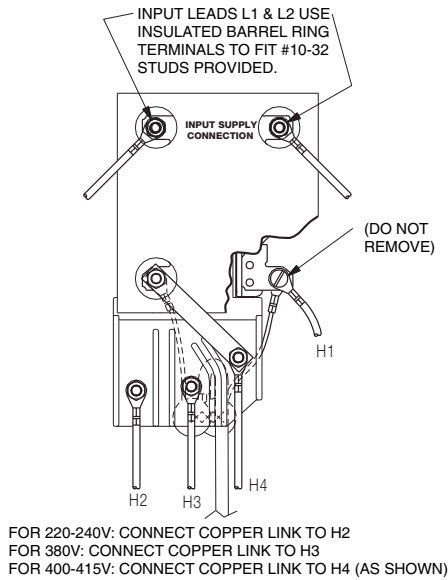

FIGURE A.1 Reconnect Leads
2. Connect the supply lines to the line switch studs as shown in figure A.1. Use insulated barrel type terminals to fit #10-32 studs. Torque each nut to 3.0 Nm.
For 220-240V connection (Refer to figure A.1):
For 380V connection (Refer to figure A.1):
For 400-415V connection (Refer to figure A.1):